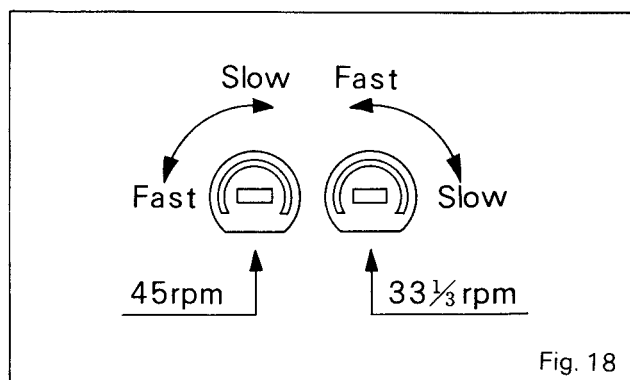

Fig. 18
- (1) Place the variable resistor knob at the center (150°) of rotating possible angle (300°).
- (2) Remove the platter and put the speed adjusting label off from the panel board.
- (3) Rotate from the two holes beneath the speed adjusting label the semi-fixed variable resistors. Check to see if the strobo indexes appear stationary after placing turntable platter and belt. (Fig. 18)